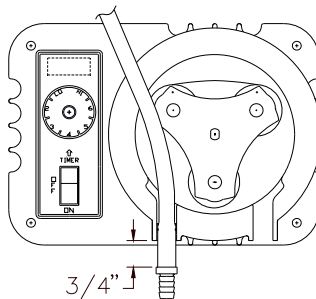

Figure 2
- 4) To install new Pinch Tube, Jog switch intermittently between OFF and CONTINUOUS positions to move Roller to position as shown in Figure 2 then switch OFF.
- 5) Lubricate Pinch Tube Assembly as noted in OPERATION section 4.1. Lay inlet end (without clamp) in inlet port on left with about 3/4" of Pinch Tube protruding from housing. See Figure 2.